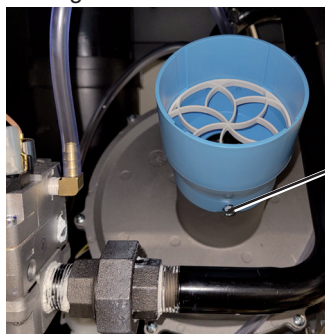

Figure 7.
10. **INSTALL NEW BLUE ORIFICE:** Use a 5/16" socket wrench or 5/16" ratchet wrench to secure the Blue air orifice. Reconnect the tubing onto the air orifice, see Figure 7.